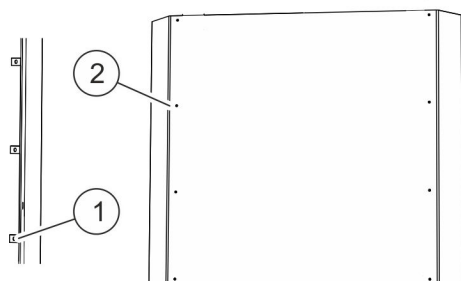

Fig. 35: Mounting plates and protective cover
3. ➤ Bolt the protective cover to the mounting plates (Fig. 35/1) using four flat-head screws each on the right and left slide rails.